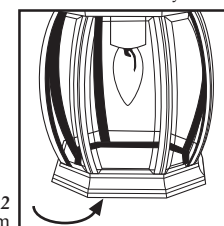

Figure 2
- For fixtures with an open bottom, simply install the bulbs through the opening in the bottom of the fixture (see figure 2).